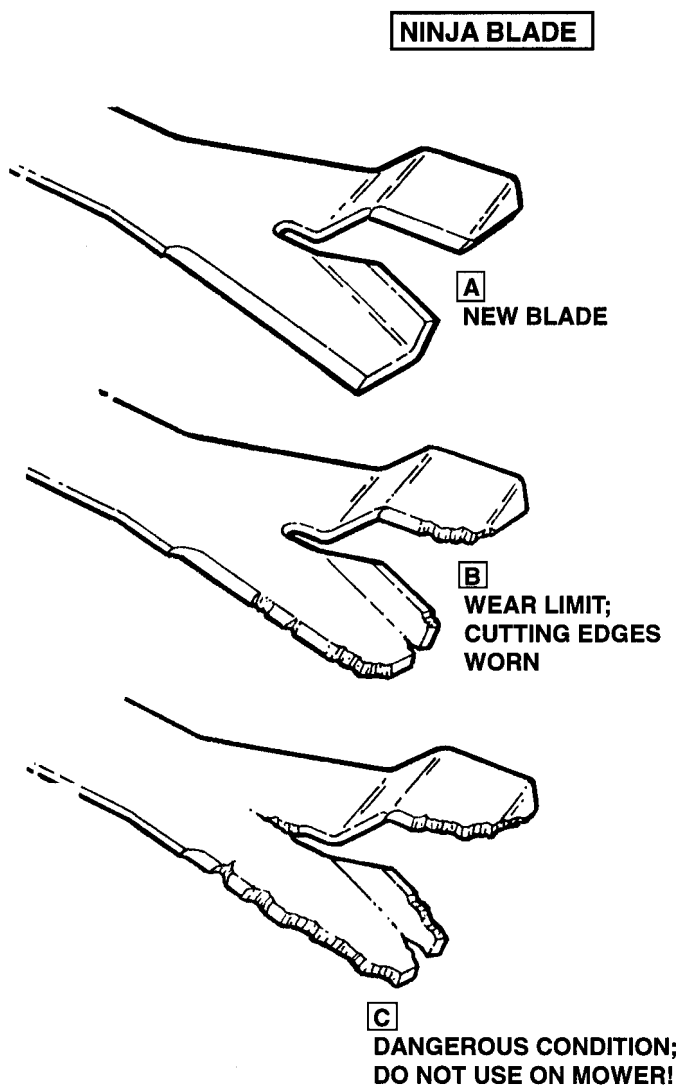

FIGURE 4.10
- Consult the blade drawings shown in Figure 4.10 to determine if a blade can be sharpened and safely reused, or if it must be replaced with a new part. Consult the SNAPPER "ACCESSORIES" Manual for Part No.
- If the blade is badly chipped, bent, out of balance, or as soon as a notch begins to wear in the tip between the flat blade and upturned blade, as depicted in Illustration "B" of Figure 4.10, then the blade **MUST** be replaced.
Never allow a customer to take a mower out of your repair shop with a NINJA blade worn to the extent shown in illustration "C" of Figure 4.10, without warning that customer of the danger that a tip could fly off and cause either personal injury or property damage.
- Clean and inspect blades for excessive wear or damage. Refer to Figure 4.10.